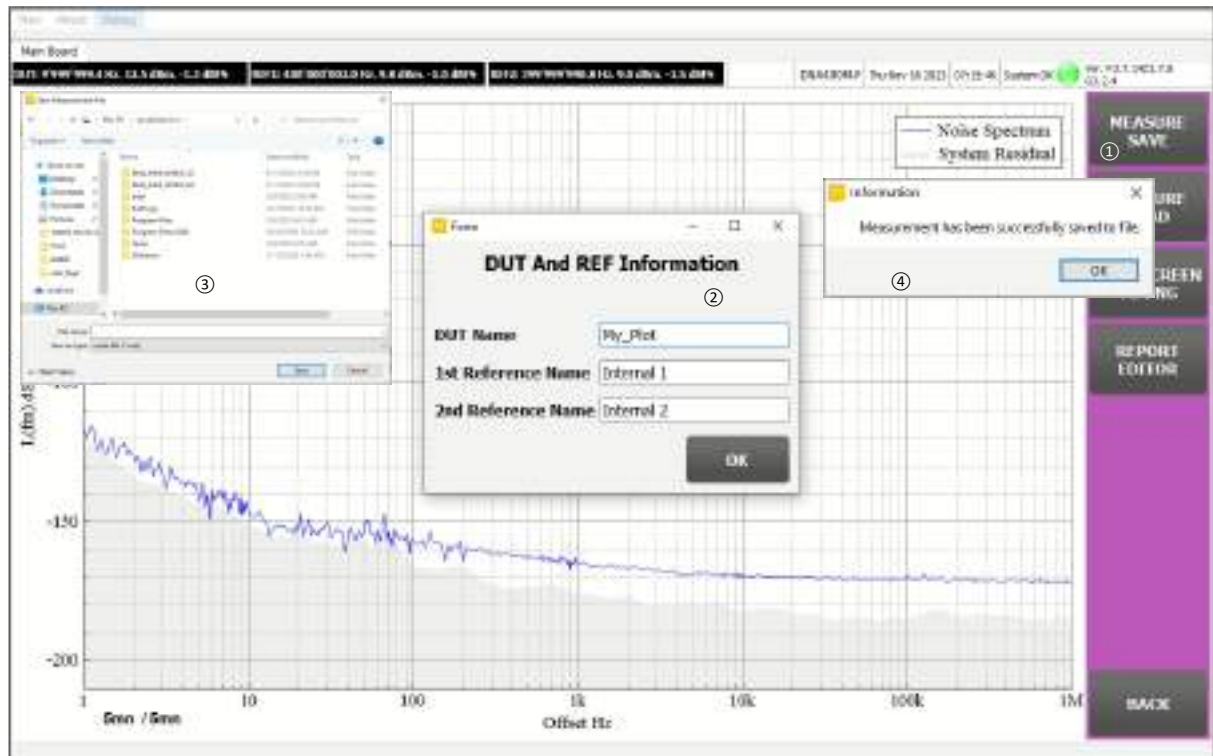

Figure 28 – Measure save.
Click on the **OK** button after inputting the DUT and the references' name in order to browse for the to-be-save file name ③. When the operation is finished, a popup ④ is displayed to inform to users. Click on the OK button to close the popup. The whole procedure is illustrated in Figure 28 – Measure save